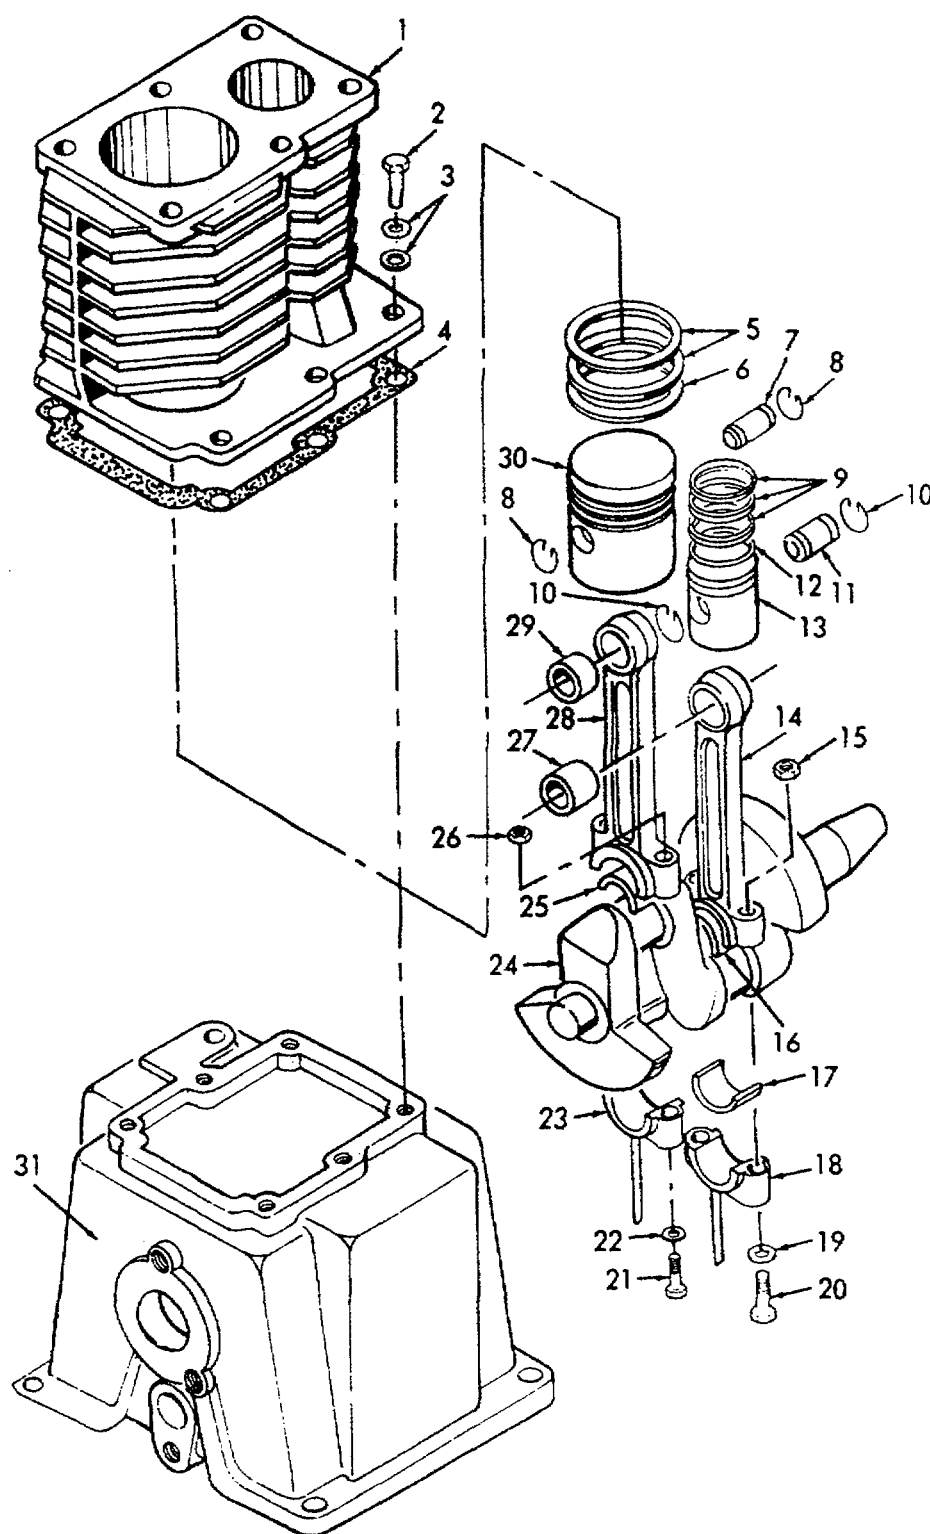

Figure 4-5. Compressor Pistons, Removal.
- **When assembling valve assembly, be sure valve plates and valve springs are oriented as shown in Figure 4-5.**
- (1) Place four valve springs (25) and four valve plates (26) on lower valve seat (21). Depress into recesses and retain with string or flexible fine gage wire.
- (2) Place two valve springs (20) and two valve plates (19) on valve seat (21). Depress into recess and retain with string or flexible fine gage wire.
- (3) Place packing (18) over lower valve seat (21).
- (4) Place upper valve seat (8) over packing (18) and install washer (10), two nuts (24), and three screws (9) to make valve assembly (27).
- (5) Snip string or wire and remove from assembly.
- (6) Install packing (22), valve assembly (27), and packing (7) onto cylinder (23).
- (7) Place cylinder head (1) onto compressor cylinder (23) and install six washers (4) and six screws (3).
- (8) Install joint (5) and nut (6) onto cylinder head (1).
- (9) Install fork (30), washer (29), screw (28), piston (34), and spring (32) onto cylinder (31).
- (10) Place cylinder (31) into cylinder head (1).